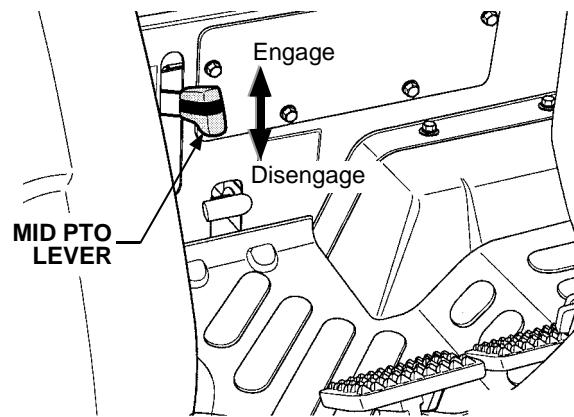

Figure 33
- Pull the lever upward to engage the Mid PTO. See Figure 33.